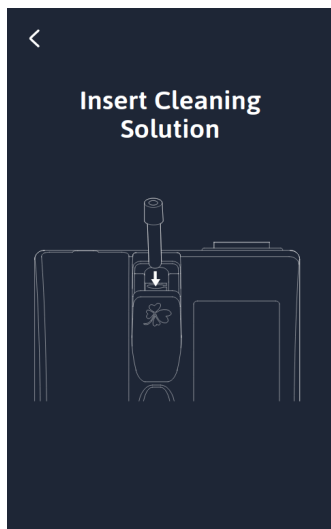

Figure 35
3. The analyzer will check for sufficient bottle volumes and prompt to replace if insufficient. If sufficient volume, the analyzer will prompt to insert the tube filled with diluted hypochlorite from Step 1 (Figure 35).